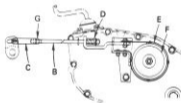

FIGURE 29
- Loosen Jam Nut (G) on Brake Rod (B) at Clevis (C) (Fig. 29). If you find it difficult to loosen Jam Nut (G), remove Cover Plate in L.H. Frame Rail.
- Rotate Brake Rod (B) counterclockwise, (↺) turning Brake Rod out of Clevis (C) four to six turns.
- Shut engine off. Rotate Brake Rod (B) clockwise by hand, turning Brake Rod into Clevis (C), until tight. Tighten Jam Nut (G) on Brake Rod (B) at Clevis (C) (Fig. 29).
- Reinstall Shift Cover Plate and four (4) Mounting Screws. If Cover Plate was removed in step b it should be replaced.